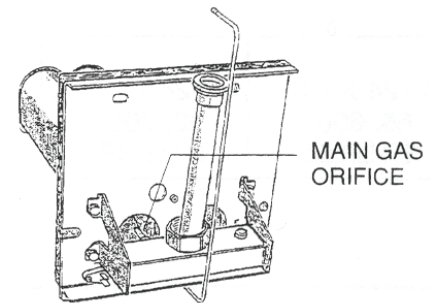

Fig.2
2. Remove main gas orifices and washers from the burner assembly, fig 2.